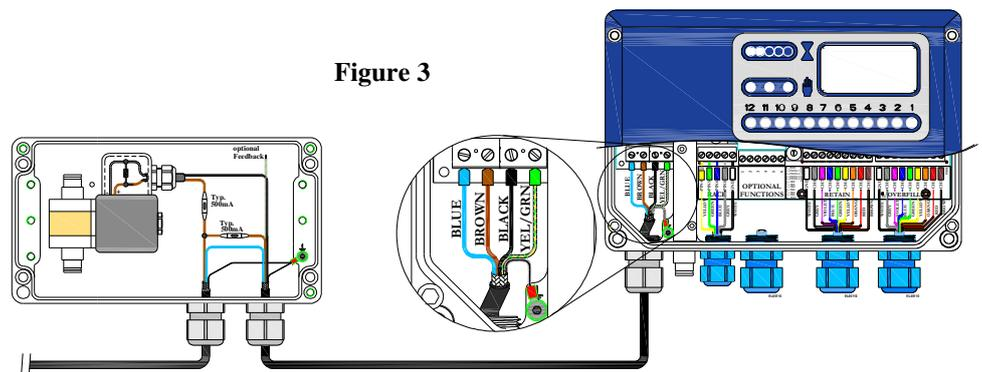

Figure 3
Wire the power into the power input terminal block as shown in **Figure 3**. Be careful to observe the correct polarity. The left most terminal is the negative (-) terminal, and the one just beside it is the positive (+) terminal. Applying the power with the incorrect polarity will not damage the monitor,
but since the negative (-) terminal is directly connected with the chassis it will blow the external inline fuse. One (1) terminal (black in Figure 3) in this NON-Intrinsically safe compartment is used to energize a solenoid. Solenoid and junction box must be mounted in appropriate location. The last terminal is designated for detecting feedback of the solenoid. Solenoid must be protected by means of an inline fuse ( max. 1Amp ).